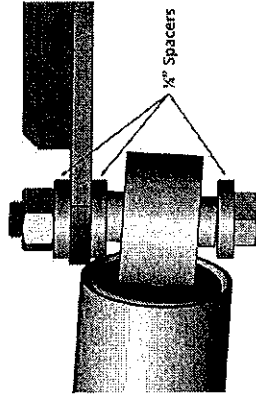

Figure 4
- Hang the small end of the SAFE T PLUS® from USI-1030 using the 9/16"-18 x 3-1/2" bolt, three 1/4" spacers, and the 9/16" lock nut (Figure 4)